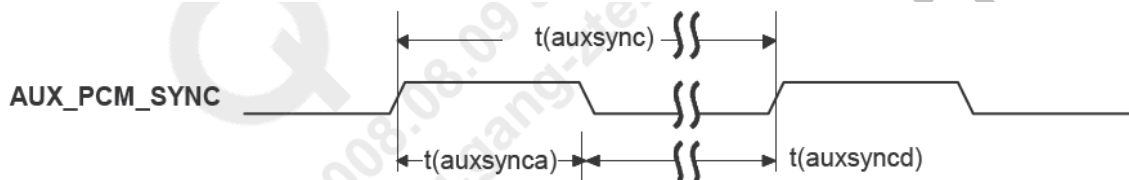

Figure19: AUX_PCM_SYNC timing
- 5) IF use an audio amplifier for speaker, optional EMI filtering is shown at Figure 19, these components (two ferrite beads and two capacitors) can be added to reduce electromagnetic interference. If used, they should be located near the EAROP and EARON.